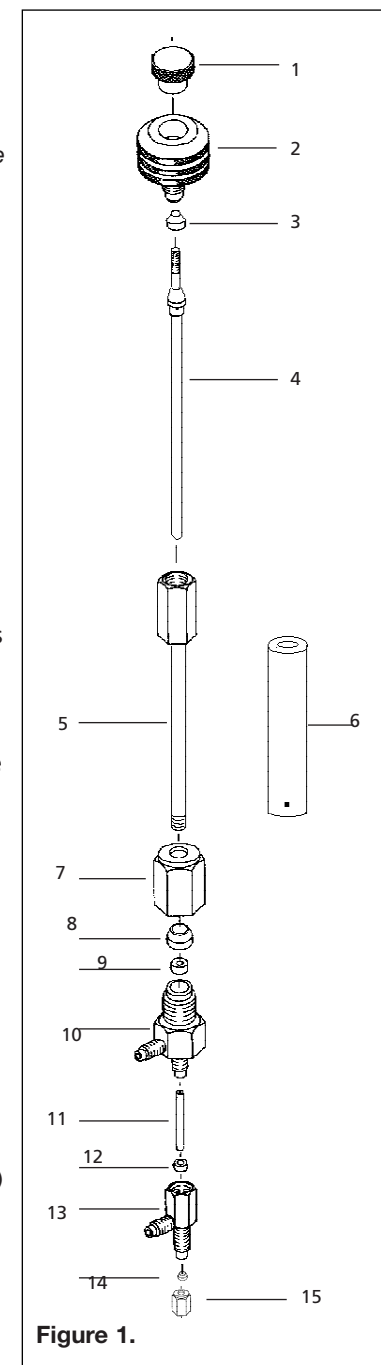

Figure 1.
2. Locate and install the Instrument Specific brass Adaptor (6) in the instrument heater block.
3. Install the "screw threaded" Injector Body (5) through the top of the Instrument Specific Adaptor. The screw threaded end of the Injector Body should now be located in the gas chromatograph oven.
4. The CHIS injector is supplied with the pneumatic inlet Tee unions (10, 11, 12 & 13) assembled. (If re-fitting of these components is required, assemble the GLT interface tube (11), Vespel Sealing Ring (12) and Tee (13) onto the Union Tee (10) as shown in figure 1. (Note: the square end of the GLT interface tube is located into the Union Tee (10)).
5. Install a Graphitised Vespel Tube Seat (9) into the Union Tee (10) as shown ensuring the Seat locates into the positioning well at the base of the Tee.
6. Fit and finger tighten the SSN/4 Nut (7) onto the Union Tee (10) with the GVF/4 ferule (8) located as shown figure 1 (Taper up).
7. Locate and screw assembly Union Tee (10) onto the CHIS Body (5) until finger tight.
8. Spanner tighten the SSN/4 Nut (7) to obtain a leak tight seal with the CHIS body.
14. Connect a further 1/16" stainless steel line between the AT-P (15) (L) and the BMCV-1 (16) (M).
15. Connect the capillary column into the tee union (D) using the supplied SSNE16-012 nut (15) Fig. 1. It is important to insert the column so that it terminates just into the vespel seat (9). The distance from the bottom of the tee union (13) to the seat is approximately 24mm.